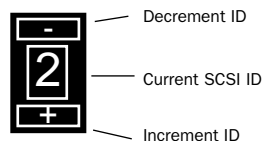

Figure 18. DigiDrive SCSI ID Switch
- 2 Set the SCSI ID to an available SCSI ID on the SCSI bus by using the SCSI ID switch (see Figure 18). The current SCSI ID number appears in the window in the middle of the switch.